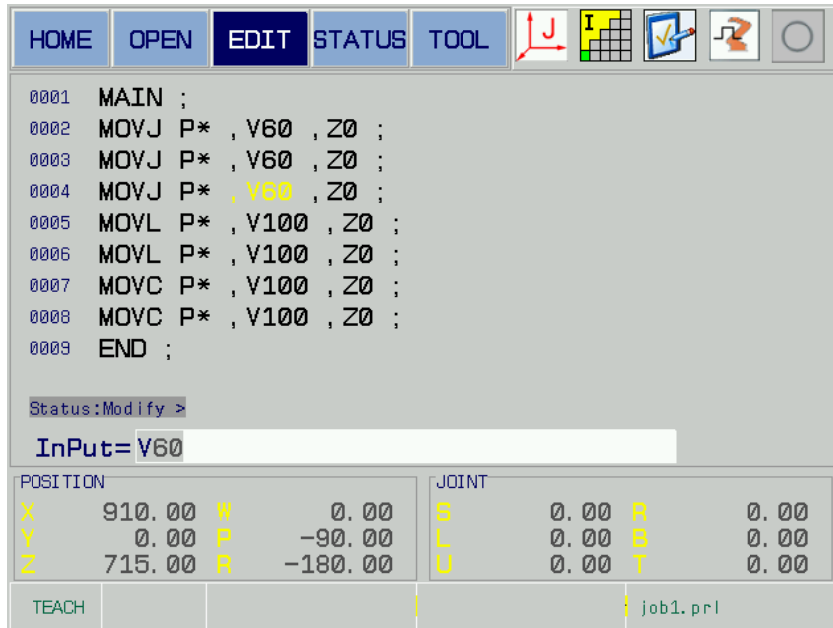

Fig. 5-48
3. The speed parameter of the overall MOVJ movement commands will be all replaced into V60 by [SHIFT] + [INPUT]; refer to the Fig. 5-48.